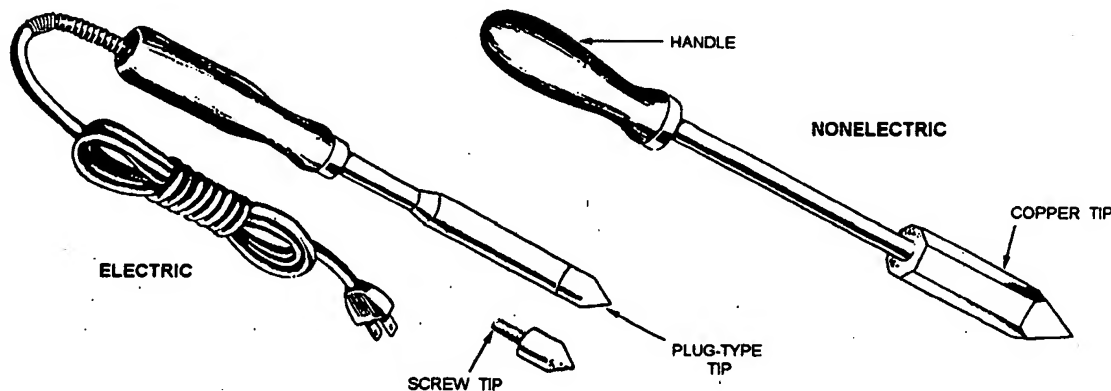

Figure 6-1.—Soldering irons.
**SOLDERING COPPERS.**— A soldering copper (usually called a soldering iron) consists of a forged copper head and an iron rod with a handle. (See fig. 6-1.)